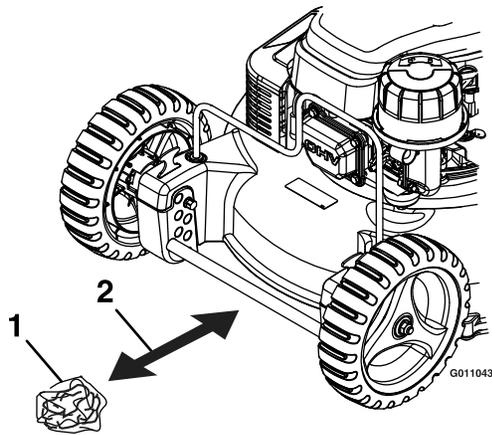

Figure 12
4. Take a half sheet of newspaper and crumple it into ball small enough to go under the deck (about 3 inches or 7.6 cm in diameter) as shown in Figure 12.